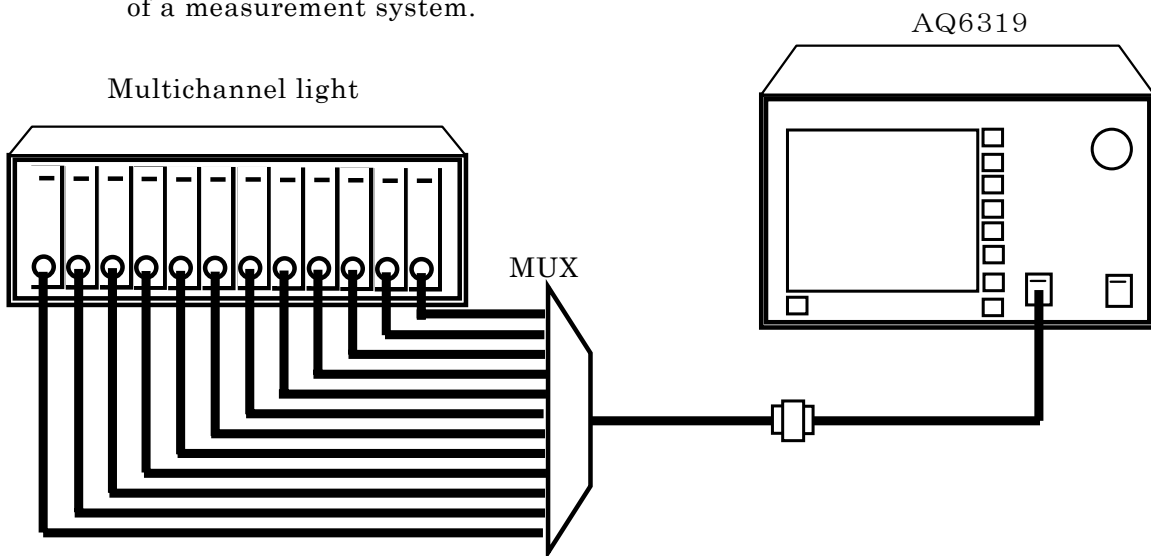

Fig. 5-30 Optical amp analysis (signal light measurement)
In order to measure an optical amp's gain and NF, it is necessary to measure the waveform of the signal light going into the optical amp, as well as the waveform of the output light leaving the optical amp. Figs. 5-30 and 5-31 show examples of a measurement system.
- ① Input, to the unit, the signal light going into the optical amp. (Fig. 5-30)
- ② Set trace A as the active trace.
- ③ Measure the signal light waveform according to measurement conditions matching the signal light waveform.
- ④ Press the [TRACE] switch <FIX A> key to set trace A to fix mode. (If all traces from trace A to trace G have been set to fix mode (FIX) as a result of this action, a warning is displayed. However, this does not pose a problem because trace B is set to write mode in the next step.)